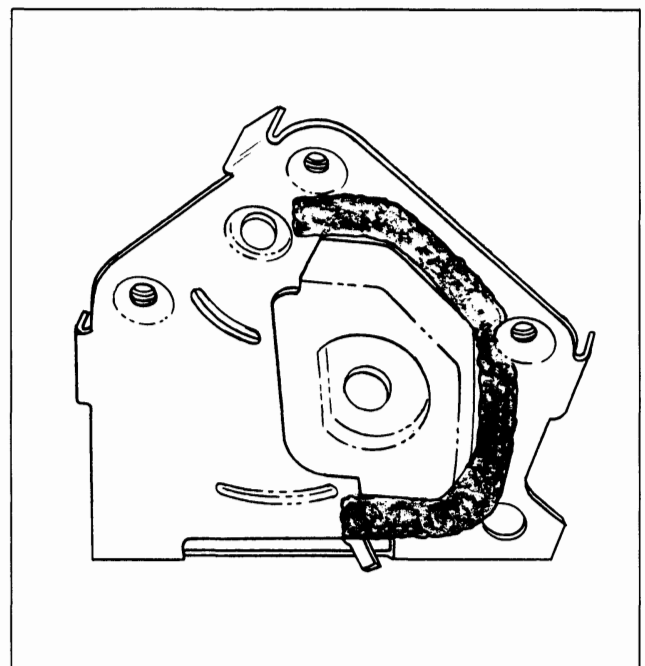

Fig. 14-23 Caulking Applied to Lock
3. To install, reverse removal procedure. Prior to installation, apply body caulking compound across top and down sides of lock bolt housing and lock frame joint (Fig. 14-23).